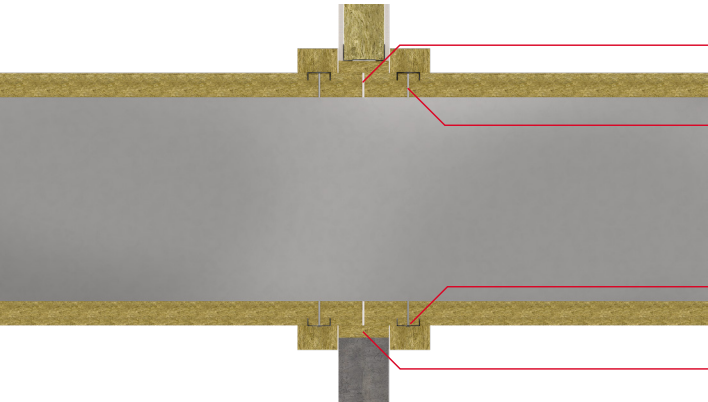

Figure 10
1. A joint in the DuctRock Slab must be accommodated at the centre point of the aperture, as shown in Figure 10.
4. Before applying the u-profile to the DuctRock Slab, slits must be cut into the insulation to allow the profile sides to penetrate the insulation (Figure 10). The u-profile can be attached to the ductwork using 100mm self-tapping screws (four to the top and bottom slabs, and two to the vertical slabs).